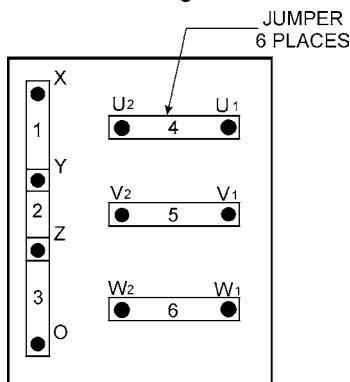

Figure 19. Voltage Change-Over Board 240V Configuration
1. Jumper the voltage change-over board for 240V operation as shown in Figure 19
1. Make sure the voltage change-over board is jumpered for 240V operation as shown in Figure 19.